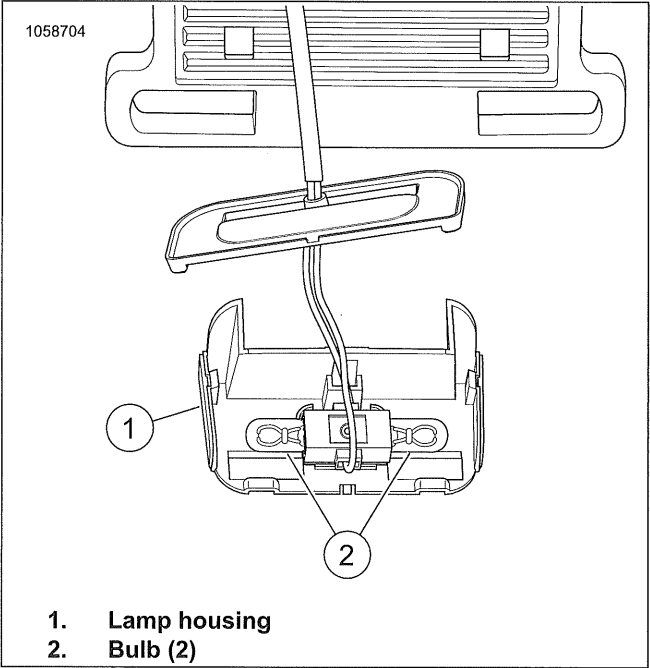

Figure 7-100. Center Mount Bulb Replacement
4. See Figure 7-100. Gently pull bulb (2) straight out of socket.
1. See Figure 7-100. Push **new** light bulb (2) into socket.